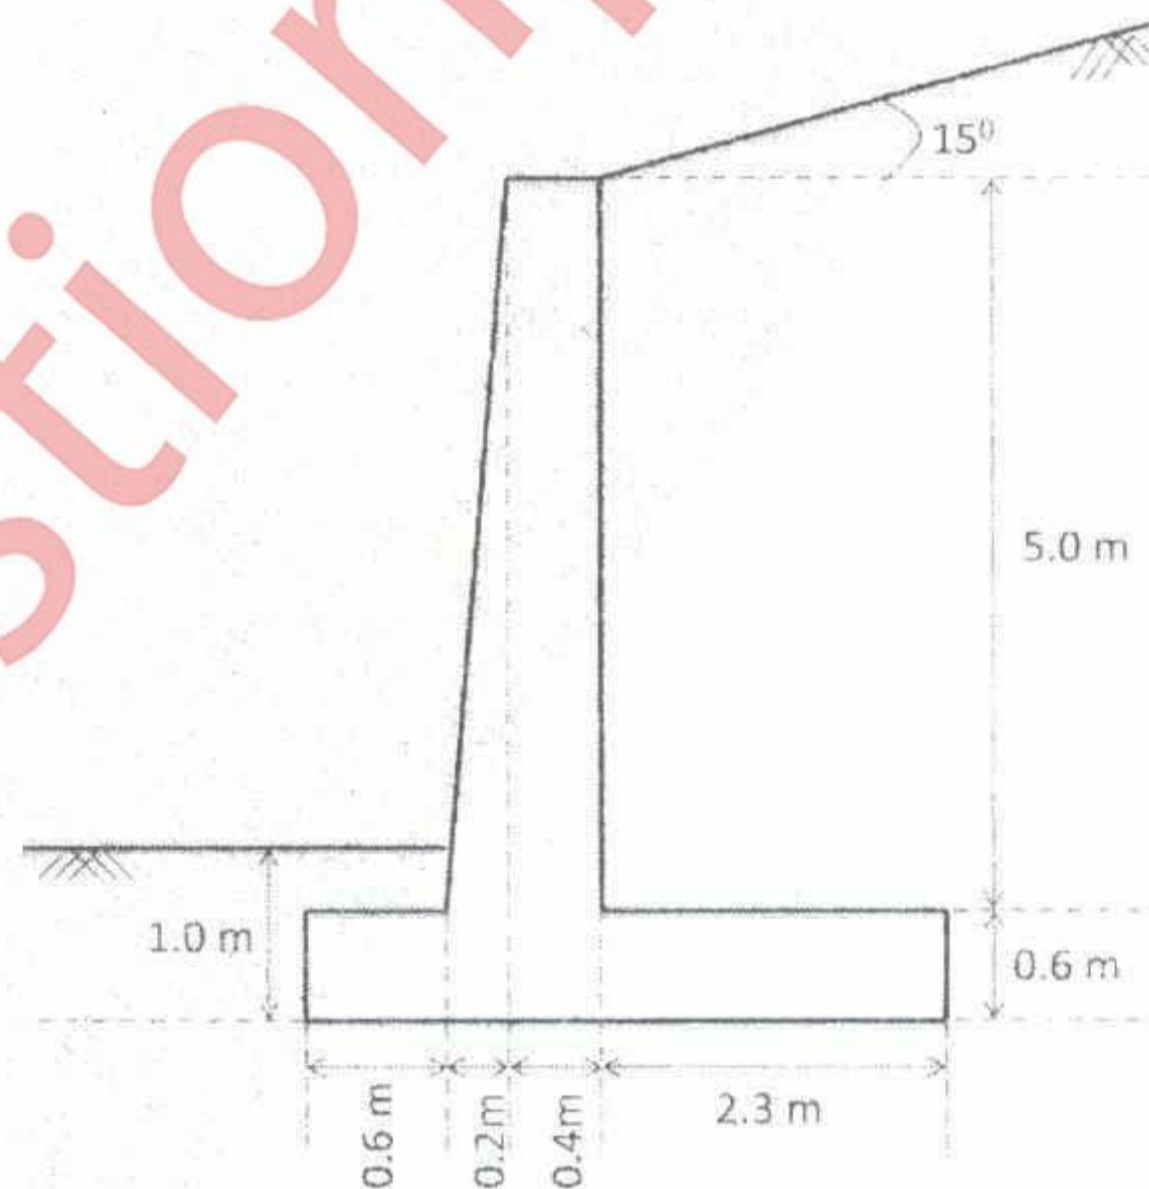

Fig. 2.
- (b) Check the stability of the cantilever retaining wall shown in Fig. 2. The allowable bearing capacity of the soil is  $500 \text{ kN/m}^2$ . Other properties of the soil are as follows:  $\phi = 36^\circ$ ,  $\gamma = 18 \text{ kN/m}^3$  and  $\delta = 25^\circ$ . 10